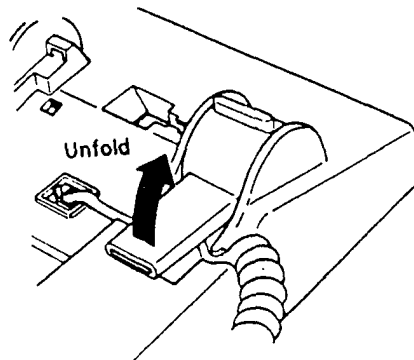

Figure 1-42 Unfolding the Legs of the Tilt Stand
- b. Unfold the legs until they lock. (Refer to Figure 1-42 - Unfolding the Legs of the Tilt Stand.)